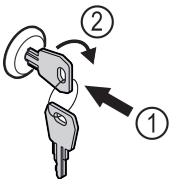

Fig. 116 Example illustration
- ▶ Insert key Fig. 116 (1).
- ▶ Turn key clockwise by 90° Fig. 116 (2).